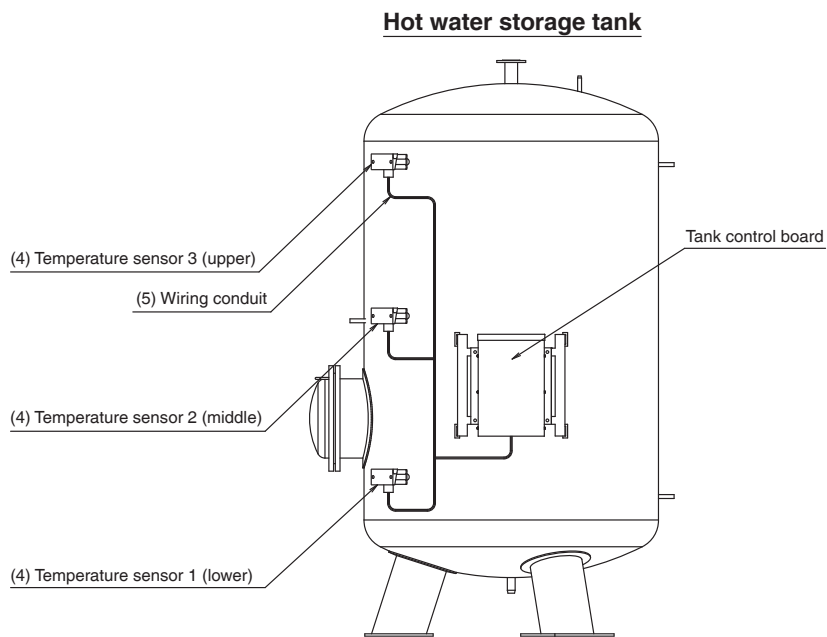

Fig. 7
(5) Use wiring conduit from the tank control board to the temperature sensor storage box.
- Refer to Fig. 7 for the layout of the wiring conduit.